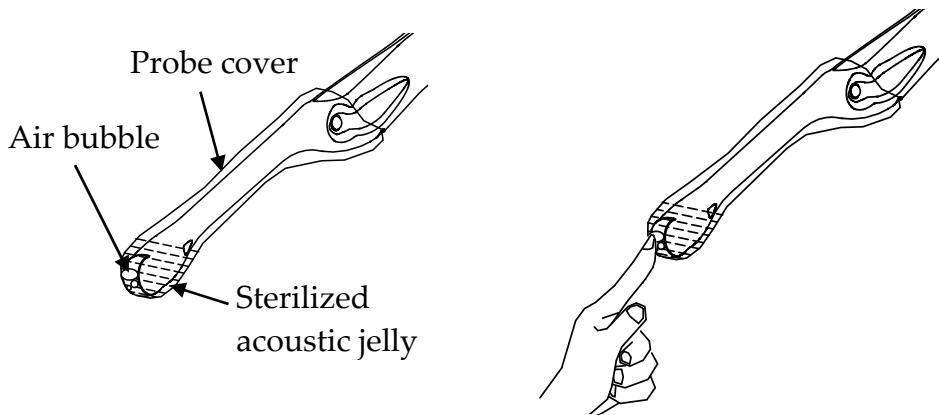

Fig. 4 Removal of bubbles in jelly
- 5) Put a probe cover on the probe and draw the probe cover until the end of the probe shaft. If air bubbles remain in jelly, remove air bubbles by pushing jelly with finger. (See Fig. 4)